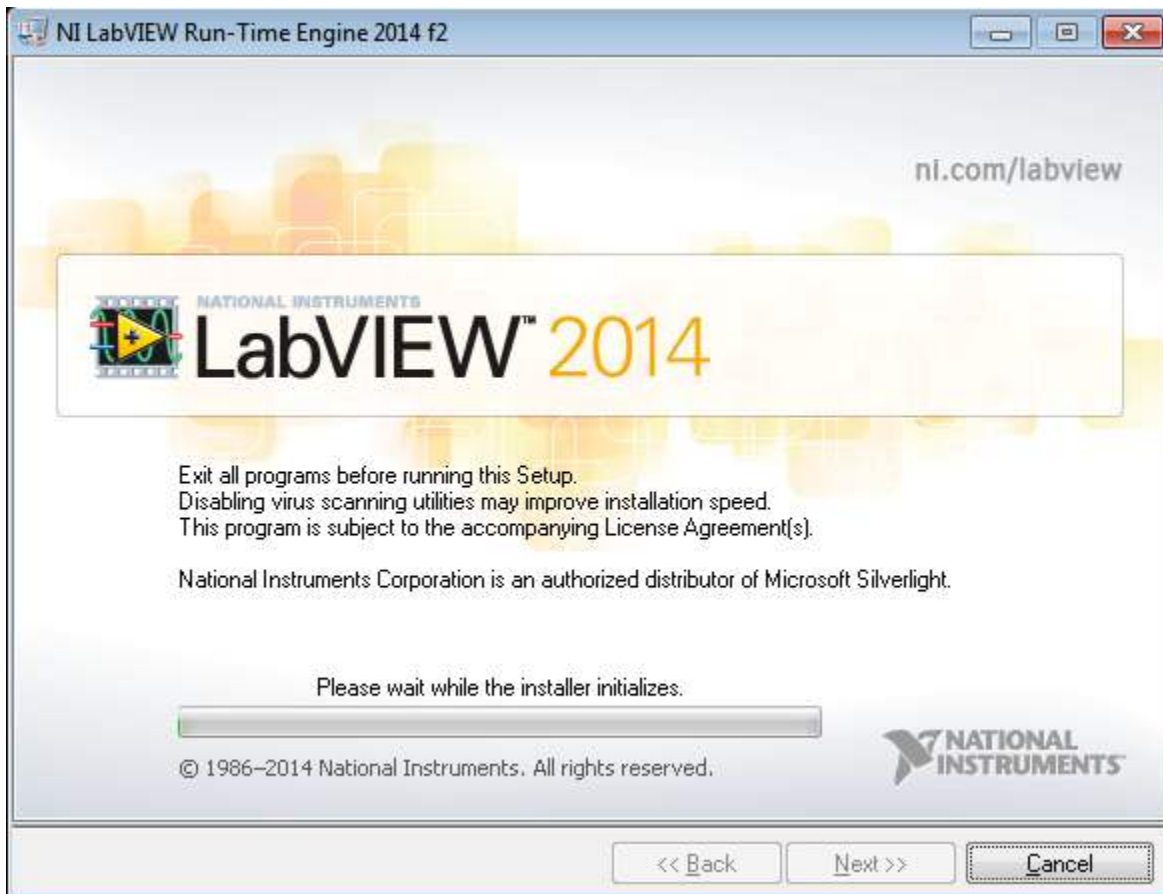

Figure 13. LabVIEW RTE Installation Initialization
11. A screen appears as shown in Figure 13. It initializes the LabVIEW RTE Installation.